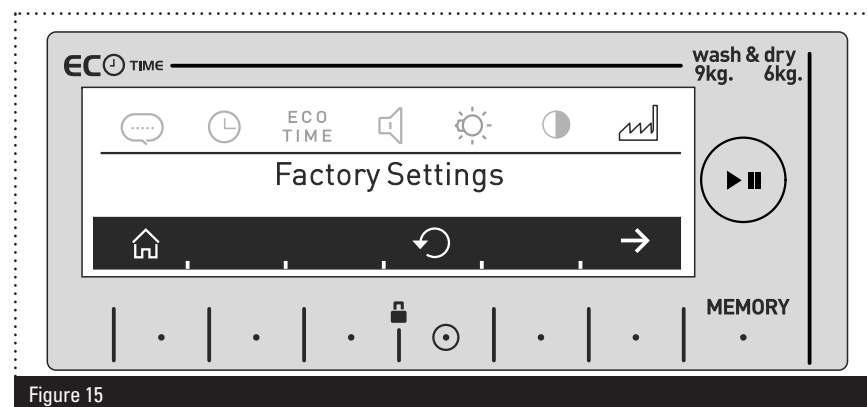

Figure 15
- » Press the menu button on the main programme screen and then press the > button until the screen shown in fig 15 is displayed. If you are already in the setting menu, simply use the > button to navigate to the factory settings screen.